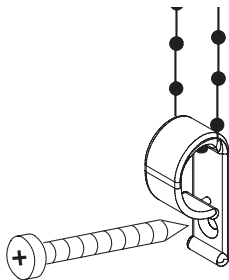

Figure 7
⑧ Cord tension device comes pre-attached to bead chain (see Fig. 7), and must be attached to wall, jamb or sill so that the bead chain is held taut enough that children cannot pull it away from the wall or fit their head into the loop. **See safety note on page 1.**